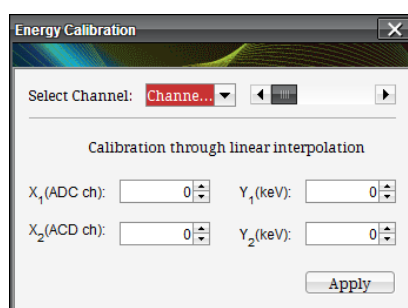

Fig. 7.11: Energy Calibration window
- **“X-Axis Unit” menu**: for Energy plot mode only, selects the unit of measurement of the Energy x-axis in the histogram between “ADC Counts” and “KeV”. In order to define a KeV scale, the “Calibrate” button opens the Energy Calibration window (**Fig. 7.11**) where it is possible to calibrate the spectrum by a dedicated menu: a customized Calibration line can be built here. Different calibration lines are available for the different channels;